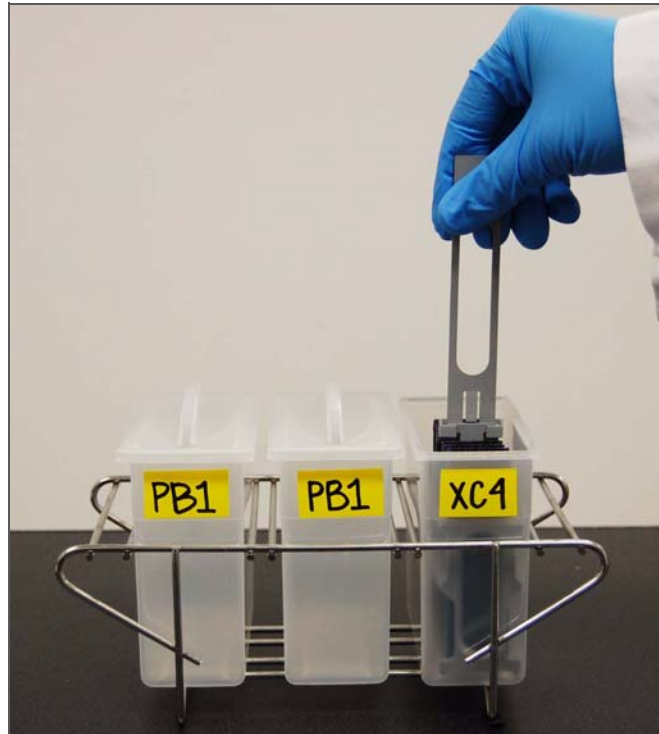

Figure 67 Washing the BeadChips in XC4
13. Transfer the wash rack to the XC4 wash dish and slowly move the wash rack up and down ten times. Let it soak for five minutes. The barcode labels on the BeadChips must face away from you, while the locking arms on the handle face towards you, for proper handling and coating (Figure 67).